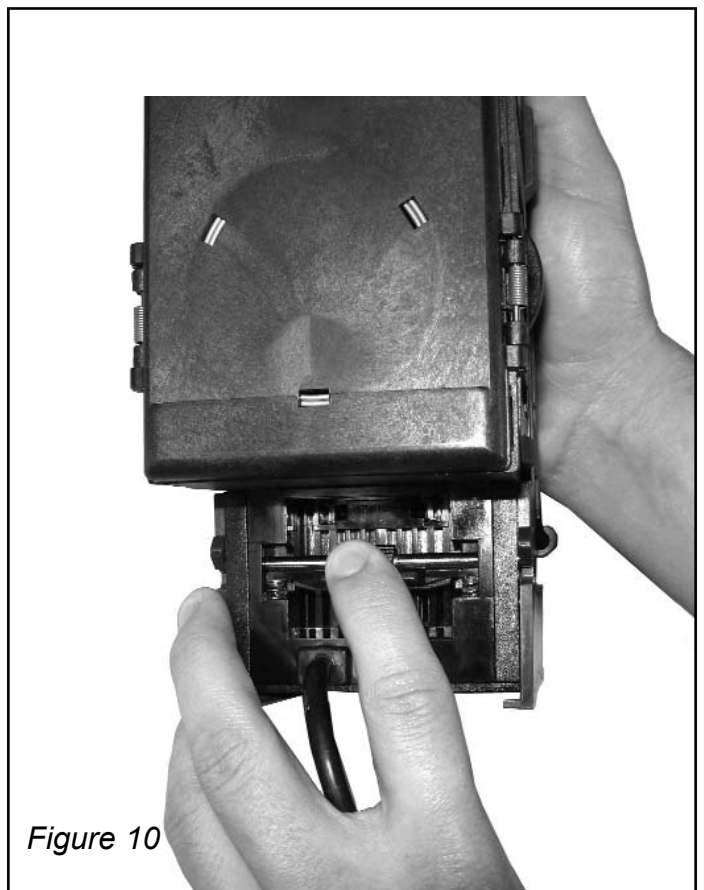

Figure 10
1. At bottom rear of unit, push down on red tab and slide out bottom sensor assembly. (Figure 10)